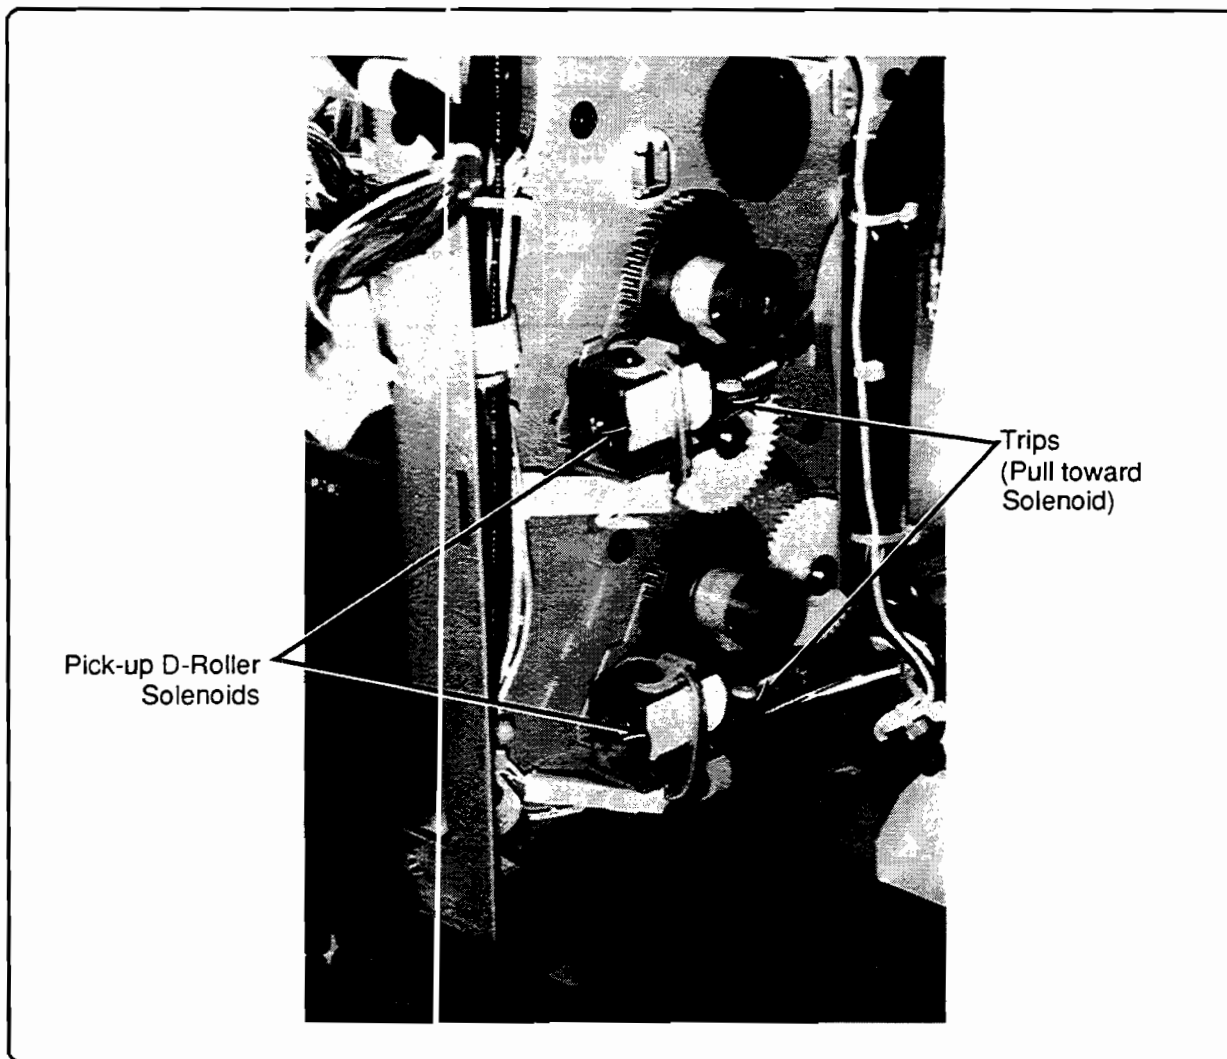

Figure 4-9. Pickup D-Rollers
6. Manually trip the solenoid of the upper and lower pick up D-roller clutches (Figure 4-9). Turn the shaft/rollers counter-clockwise (as viewed from the rear of the printer) until you have a good view of the rollers in the cassette area. Inspect the "D" Rollers for wear. At minimum, clean with a Rubber Roller Restorer, otherwise replace all 14 "D" Rollers (P/N FF1-7201-000CN).